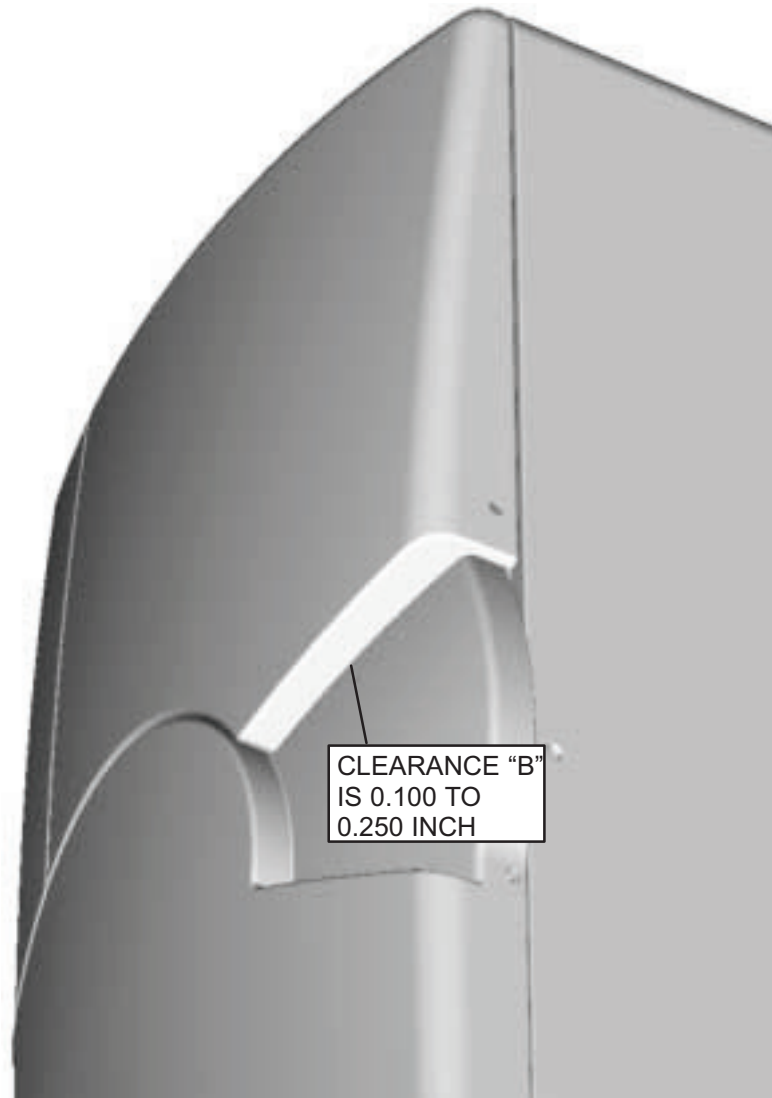

FIGURE 239 CLEARANCE "B" CHECK
6. Check clearance "B", between the Upper Right Column Cover and the Lower Right Column Cover. Refer to Figure 239.